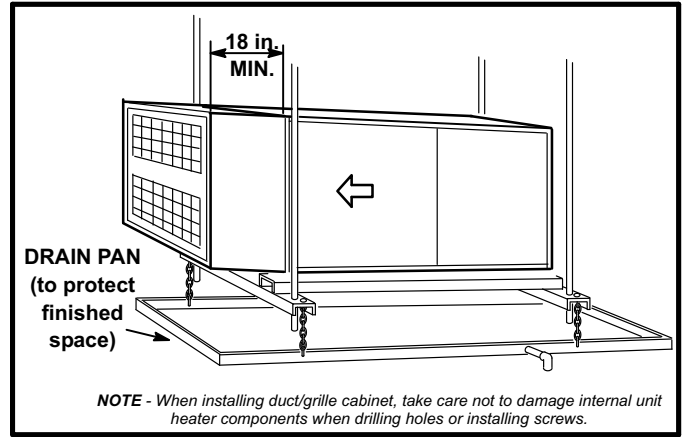

FIGURE 20
- 1 - Outer dimensions of cabinet should match those of the unit heater, so the duct/grille cabinet installs flush with the unit heater cabinet. See figure 20.
- 4 - Use #10-16 x 1/2 inch sheet metal screws to secure duct/grille cabinet to unit, taking care not to damage internal components of unit heater when drilling holes or installing screws. See figure 20.